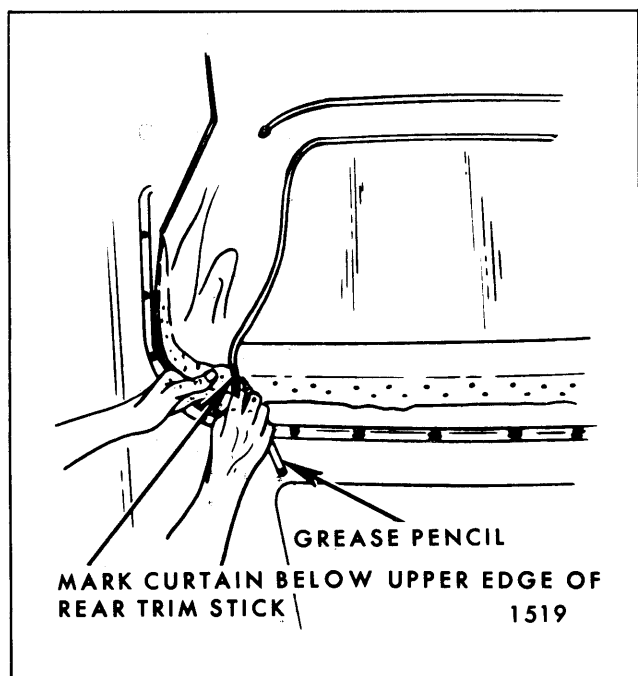

Fig. 13-6—Locating Edge of Top Material
19. To establish relationship of right and left inner vertical edge of old top material to back curtain assembly at rear trim stick location, mark back curtain material at both locations with a grease pencil (Fig. 13-6). Reference marks should be transferred to new back curtain when step 6 of installation procedure is performed.